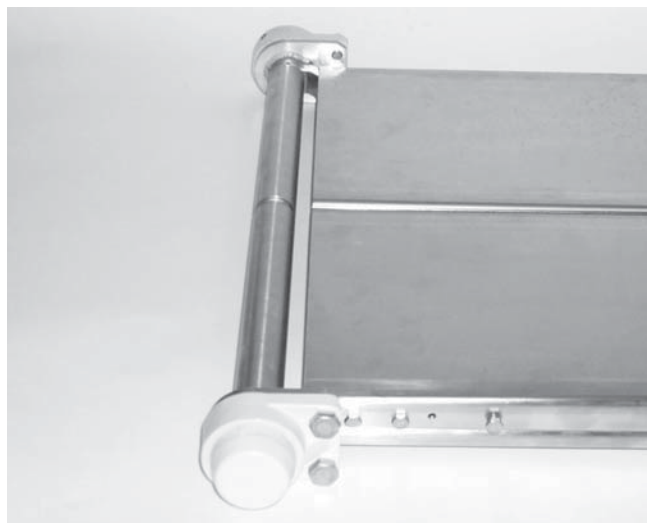

Figure 6
2. Compress tension end (Figure 6). Refer to steps 4 and 5 under the “Belt Removal for Conveyor Without Gearmotor Mounting Package or Stands” on page 11.